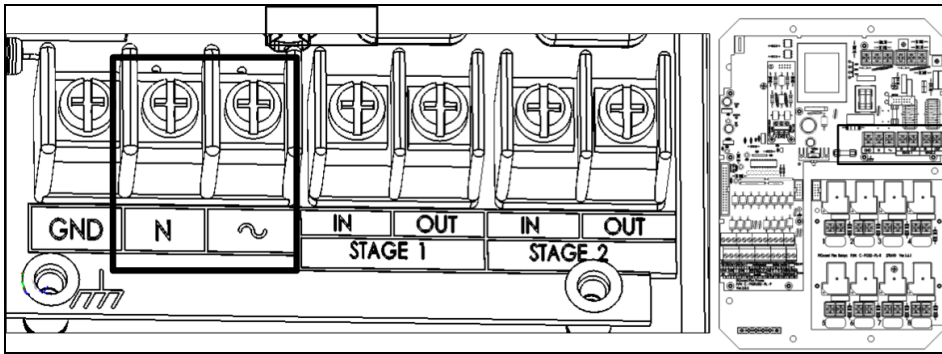

Figure 4: Input power ports
5. Using the voltmeter, place the probes on ~ and N (Figure 4). The voltmeter displays the Pig Guard voltage power input.